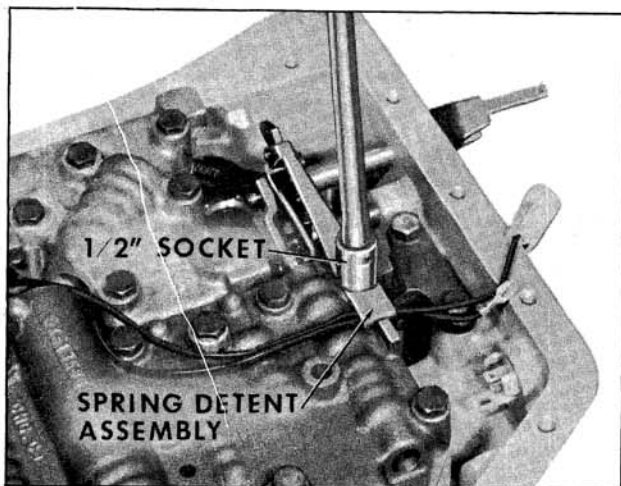

Fig. 6-353 Removing Spring Detent Assembly
5. Remove spring detent assembly bolt with a 1/2" socket. Remove spring detent assembly from valve body. (Fig. 6-353)